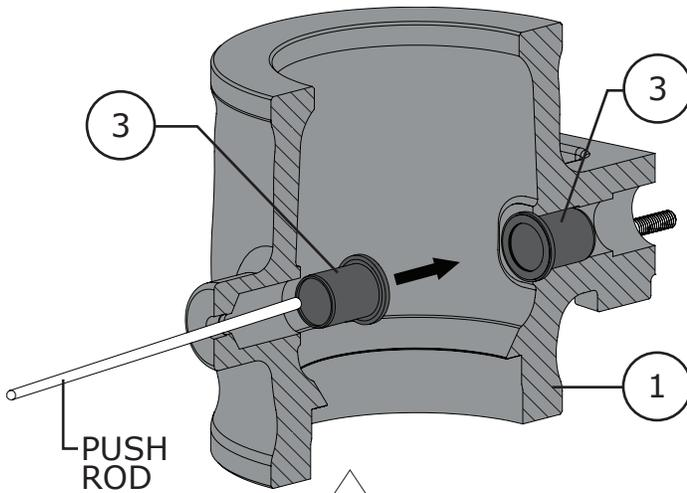

Figure 29B 3 to 12 Inch Outboard Bearing Removal
- 1 Remove the pipe plug (Key 38) if it hasn't already been removed. If necessary, use a push rod that will fit through the opening left by the pipe plug and carefully push the outboard bearing (Key 3) towards the center of the valve body (Key 1). Remove the bearing. Refer to Figure 29B.